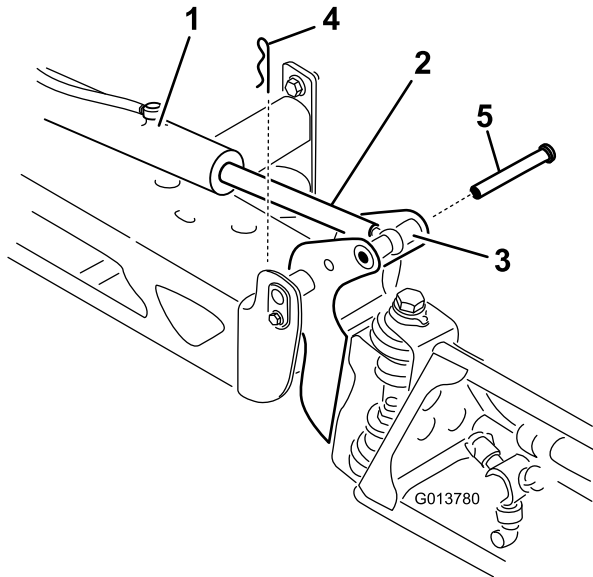

Figure 99
2. Remove the cotter pin from the pivot pin (Figure 99).
3. Lift up on the boom and remove the pin (Figure 99), and slowly lower the boom to the ground.
9. While holding the boom, insert the pin through both boom pivot and actuator rod (Figure 99).